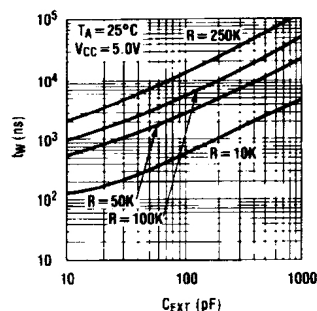

FIGURE 3.
- figure 3: monostable non-redéclenchable actif sur front descendant
5. For $C_X < 1000$ pF see Figure 3 for t_W vs. C_X family curves with R_X as a parameter: